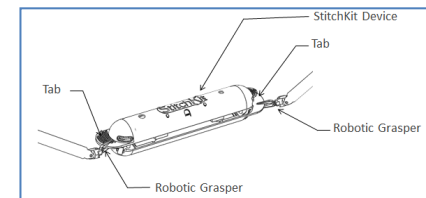

Figure 5 - Opening the StitchKit® Device using Robotic Graspers and tabs
- 5.3. Gently open the StitchKit® using the side tabs. (Figure 5)